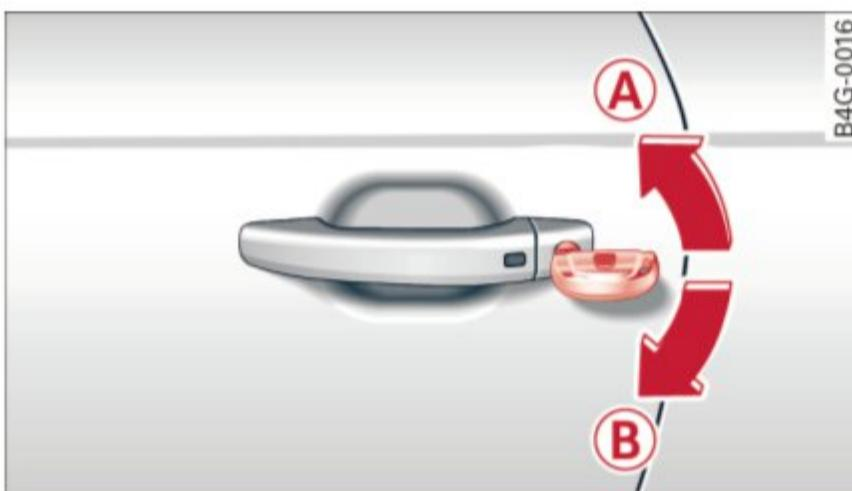

Fig. 31 Key turns for opening and closing
- ▶ Turn the key to position ⇒ fig. 31 **(A)** until all the windows have reached the desired position and the panoramic tilting sunroof is tilted.